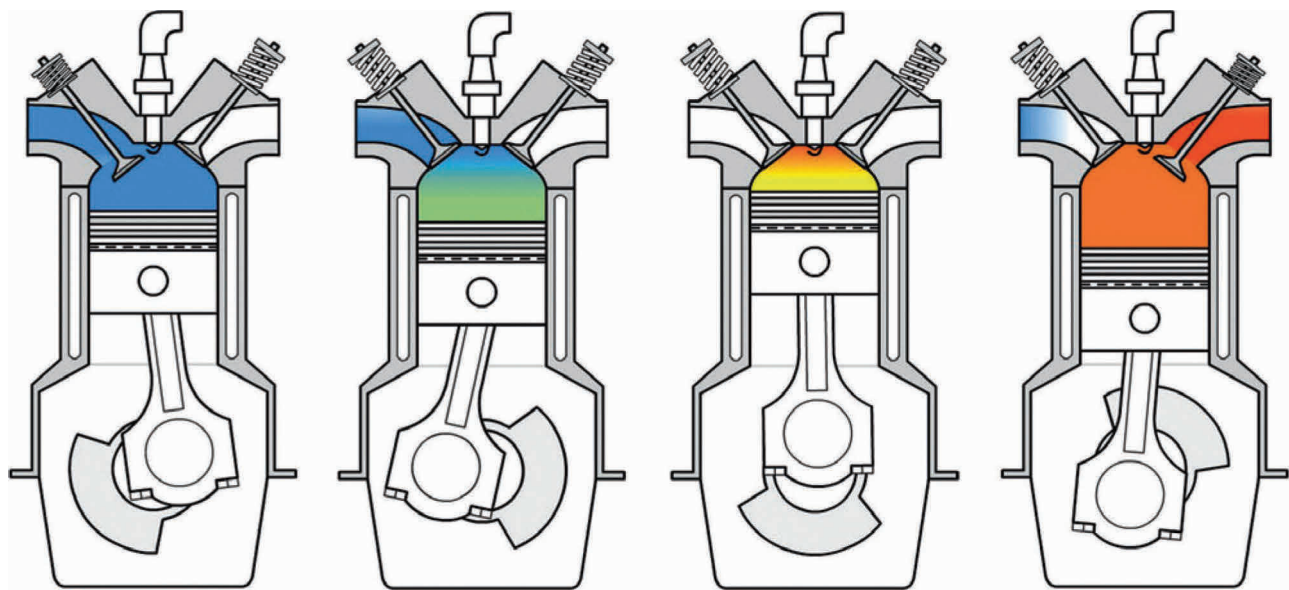

Figure 6.2 Four-stroke cycle: induction, compression, power and exhaust.
When the term ‘stroke’ is used, it means the movement of a piston from top dead centre (TDC) to bottom dead centre (BDC) or the other way round. The following table explains the spark ignition (SI) and compression ignition (CI) four-stroke cycles – for revision purposes. Figure 6.2 shows the SI cycle.